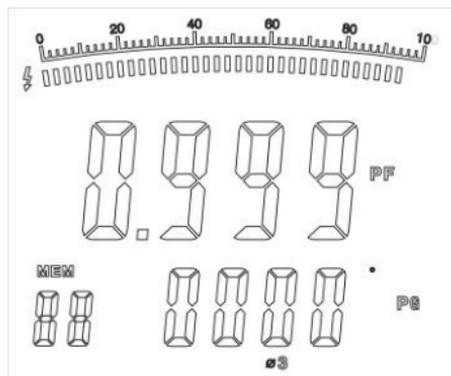

Figure 20
Then press **SEL** again to choose the third phase, see figure 20.
- Press **SEL** to choose the third phase , see figure 20.